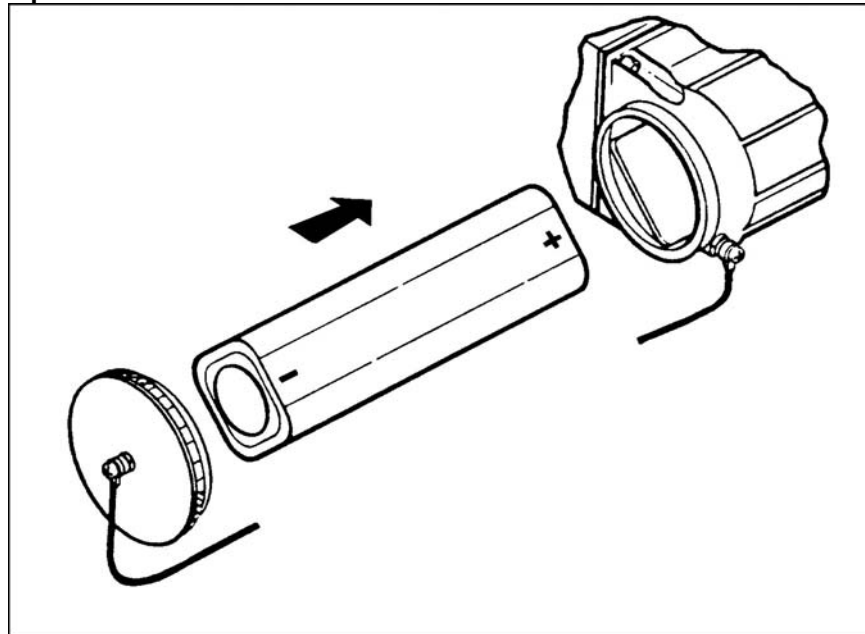

Figure 2. Battery replacement.
- d. Install battery (Figure 2).